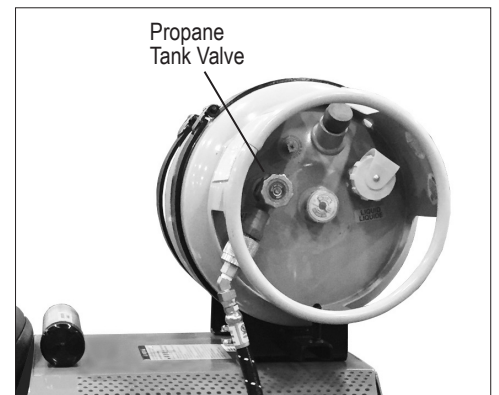

FIG. 13
5. Close propane tank valve (Figure 13).